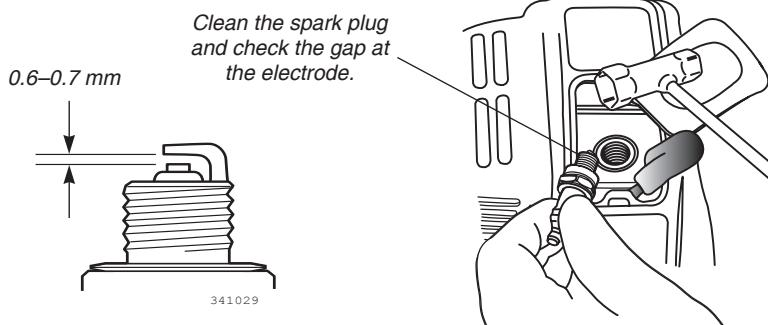

Figure 27
- Remove and clean the spark plug. Adjust the spark plug electrode gap to 0.6 - 0.7 mm. If the spark plug must be replaced, use only an NGK CMR5H or equivalent resistor type spark plug of the correct heat range. See Figure 27.